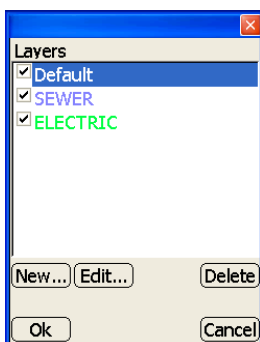

Figure 3-82. Layers Parameters
- Layers – use the *Layers* dialog box to create, edit, or delete layers for the selected points file; press **Ok** to save the information. To enable the layers, check the box next to the layer so that the layer will be displayed on the main screen (Figure 3-82 on page 3-54). See “Layers” on page 3-55 for information on the dialog boxes that display.